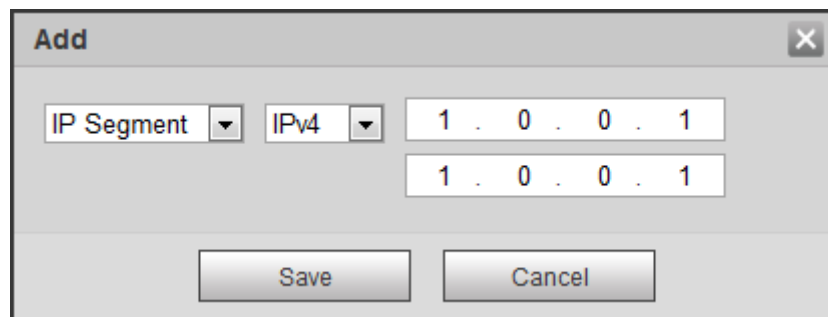

Figure 5-168
- Edit: Click it to edit start address and end address. See Figure 5-168. System can check the IP address validity after the edit operation and implement IPv6 optimization.